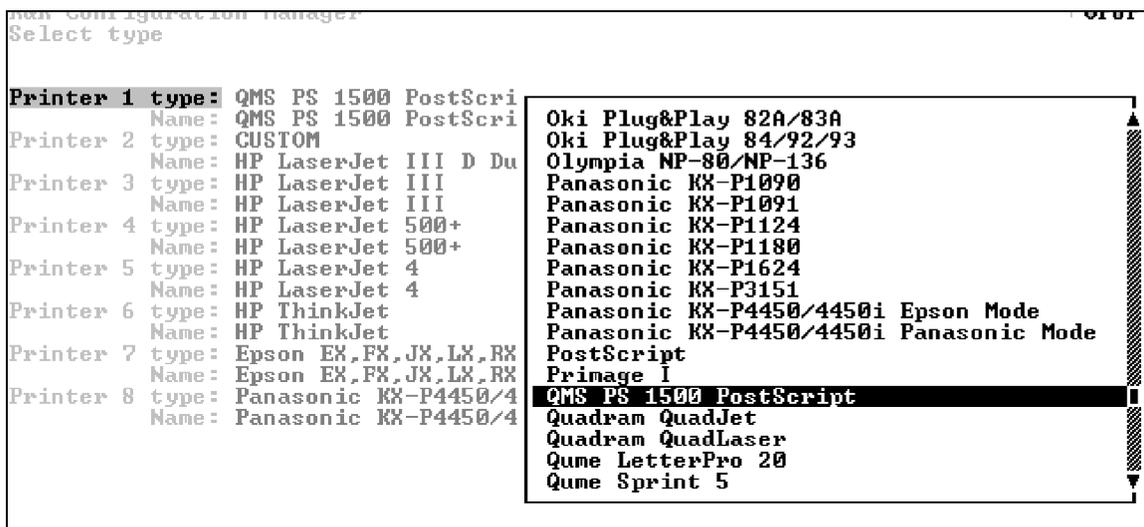

Figure 5-119. Pop-up list of printers.
5. Use the up and down arrow keys to highlight the printer you wish to change and press **<Enter>**. A pop-up list of printers appears on your screen as shown in Figure 5-119.